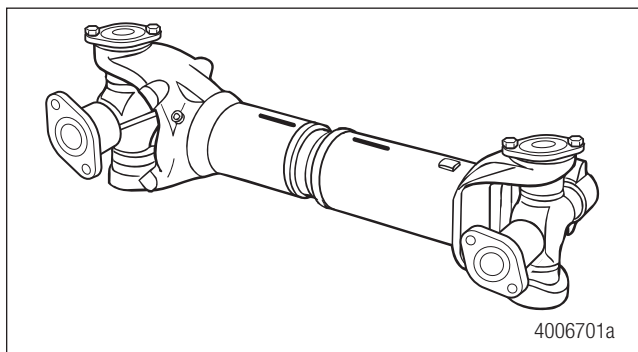

Figure 6.10
3. Install the slip shaft into the slip yoke. Ensure that you reassemble the sections into their original positions by using the marks made during disassembly. Figure 6.10.